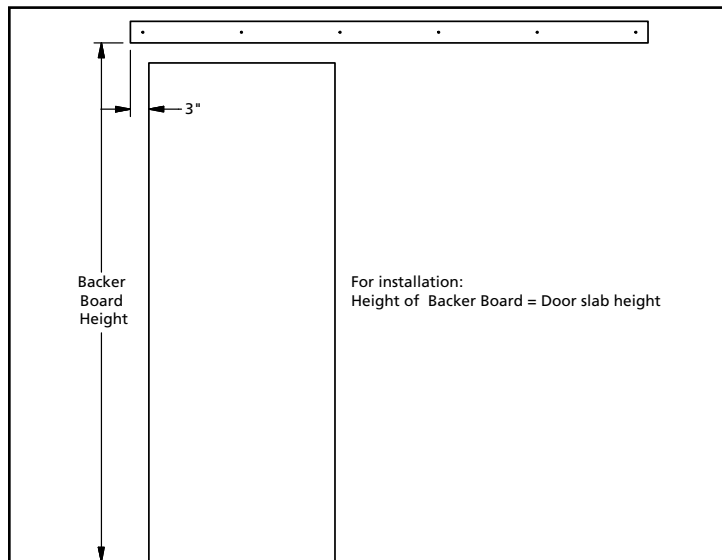

Figure 17. Backer Board Placement
2. Horizontally, the board should be placed so it has a minimum of 3" of overlap with the opening the barn door will operate within, as shown in Figure 17.